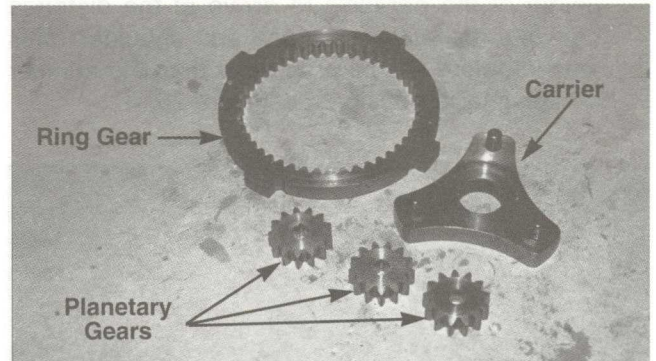

FIGURE 23.
23. Install the ring gear into the housing. It has four tabs and should rest in the housing and be loose. See figure 23.